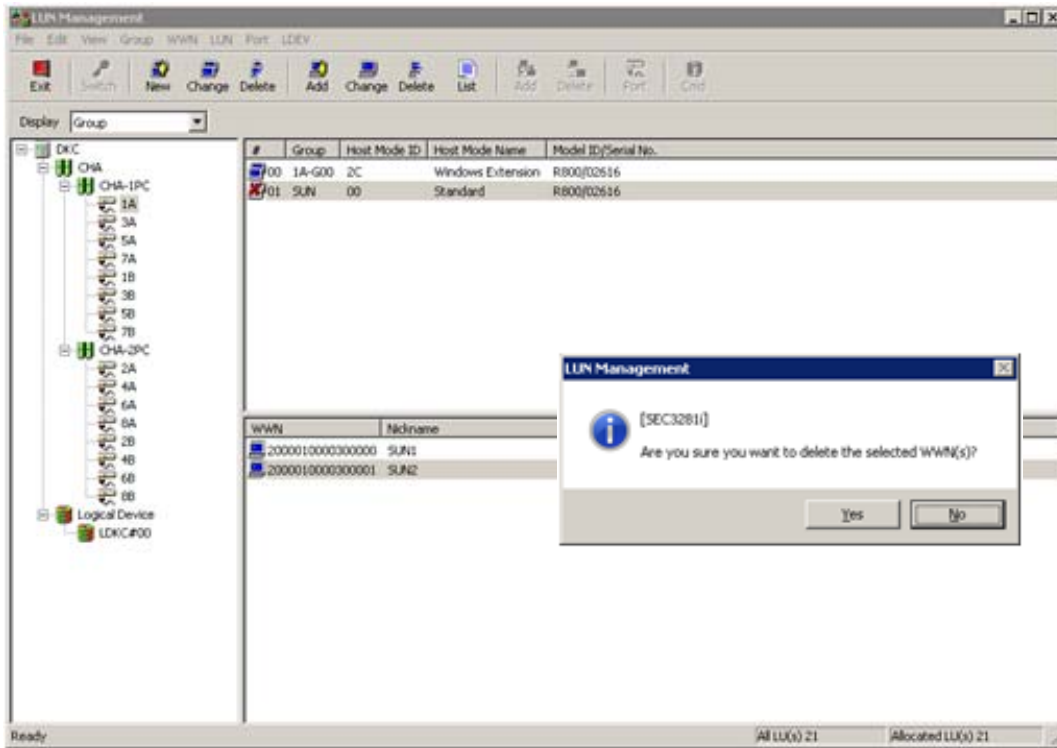

Figure 5.3.1.4-4-5 Main Window
- ① Select (CL) a WWN you want to delete from the lower right list.
- ② Select (DR) [Delete] from the [WWN] menu in the Main window (Figure 5.3.1.4-4-5).
- ③ Since a message asking for a confirmation is displayed, select (CL) the [Yes] button.
- ④ The WWN that has been selected from the lower right list is deleted.